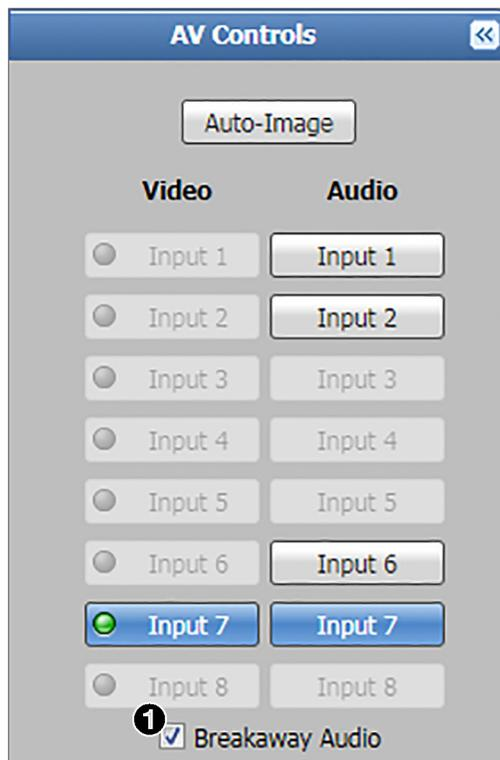

Figure 52. AV Controls Panel with Breakaway Audio Enabled
The unlocked icon (see figure 52, 8, on the previous page) indicates that an input or output is not HDCP-encrypted. The lock with a check mark icon (9) indicates that an input or output is HDCP-encrypted.
Select the **Breakaway Audio** checkbox (figure 52, 3, and figure 53, 1) to enable audio breakaway. The input buttons separate into two columns: Video and Audio.
- Click the **Video Mute** button (see figure 52, **4**, on page 90) to mute only the video signal. The button turns red.